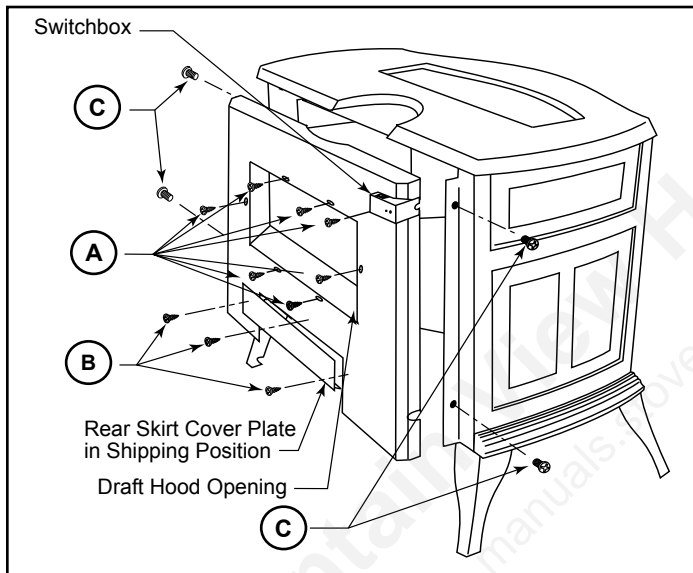

Figure 14 - Remove rear skirt cover plate and rear skirt from RNV40.
1. Remove the rear skirt. Use work gloves to protect your hands. Remove six (6) sheet metal screws around the edge of the draft hood opening. ('A', Figure 14) Remove the rear skirt cover plate: three (3) screws hold it on. ('B', Figure 14) Remove one (1) sheet metal screw holding the switch box to the rear skirt. Loosen the Phillips head bolt on each side of the rear skirt. ('C', Figure 14) Carefully pull the skirt assembly straight back; a wire tie holds two (2) wiring harnesses to the rear skirt. Set the skirt down carefully, either remove the wire tie, or let the harnesses hold the skirt edge off the floor.